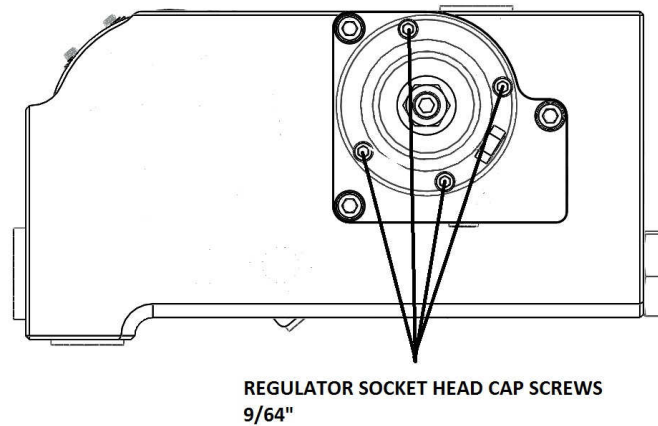

FIGURE 1-1
1. Select and install the pressure spring that best fits your pressure range. To swap springs, simply remove the four socket head cap screws, remove the top cap and replace spring. **FIGURE 1-1**